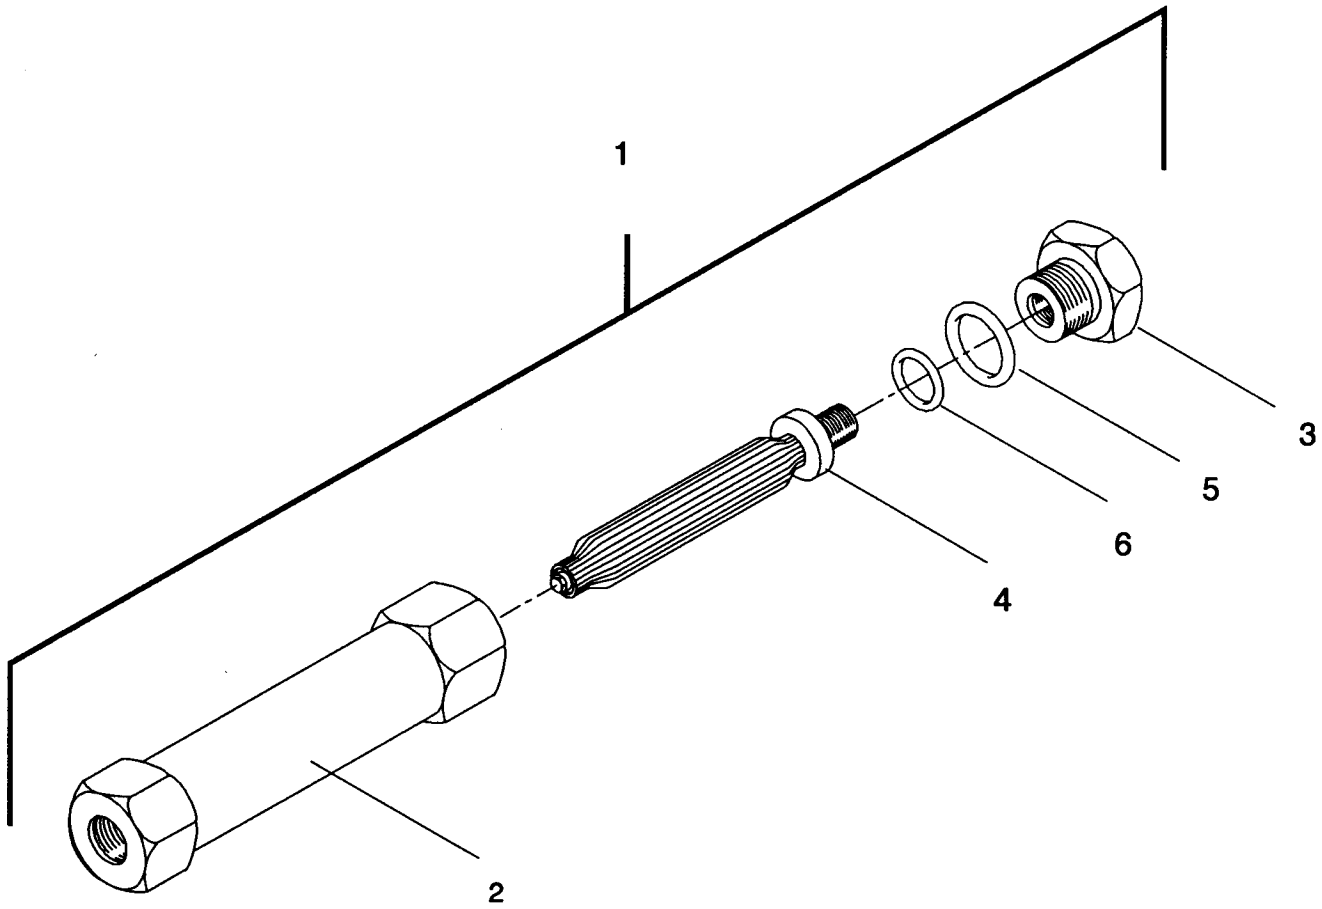

Figure 5-1. High Pressure Filter (Item 1)
5-2 High Pressure (HP) Filter (CRS) (DACC). See Figure 5-1.